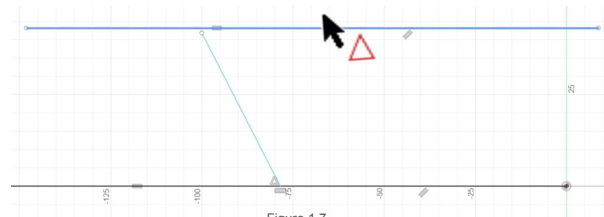

Figure 1.7
- **Midpoint:** Snaps a point to the exact middle of a line. In our lesson, we've added a line to add to midpoint. (see Figure 1.7)